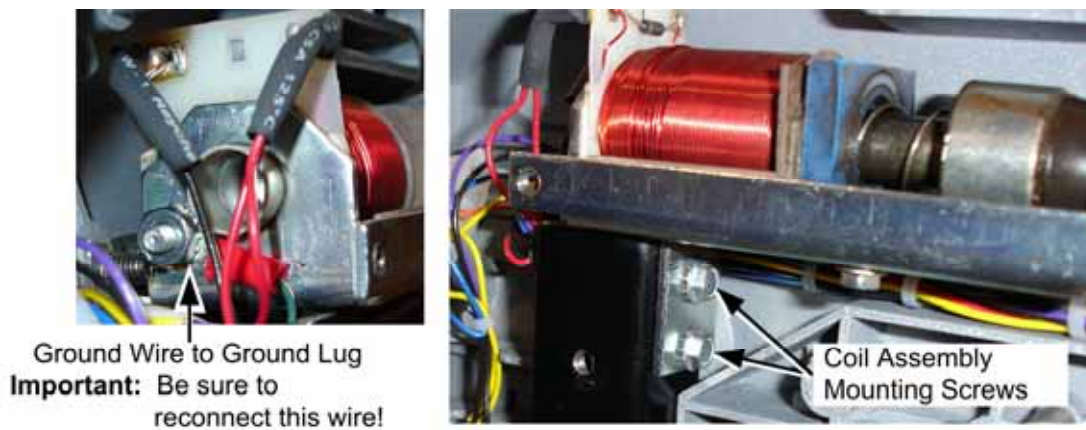

Figure 5. Gun Coil Assembly Service
4. Remove the two screws that secure the coil assembly mounting plate to the gun shaft, as shown in Figure 5.